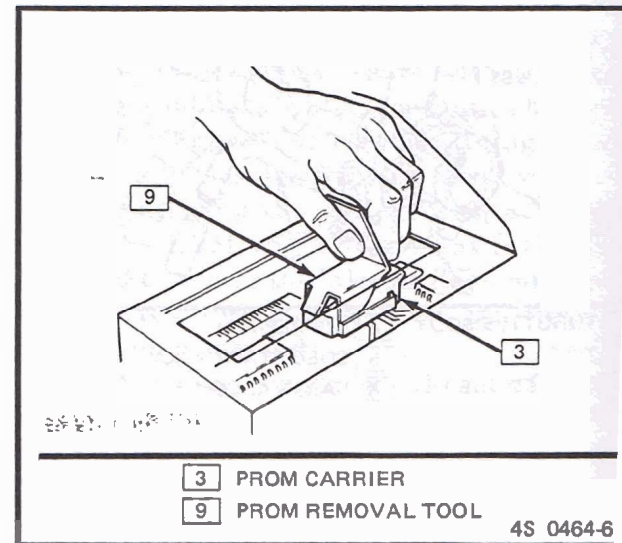

Figure 13 PROM Removal Tool
Using the rocker-type PROM removal tool, engage one end of the PROM carrier with the hook end of the tool (see Figure 13). Press on the vertical bar end of the tool and rock the engaged end of the PROM carrier up as far as possible. Engage the opposite end of the PROM carrier in the same manner and rock this end up as far as possible. Repeat this process until the PROM
3. Using the removal tool, pictured in Figure 13, grasp the carrier at the narrow ends. Gently rock the carrier from end to end while applying a firm upward force and remove the CALPAK and carrier. Use of unapproved CALPAK removal tools or methods will cause damage to the CALPAK or CALPAK socket.